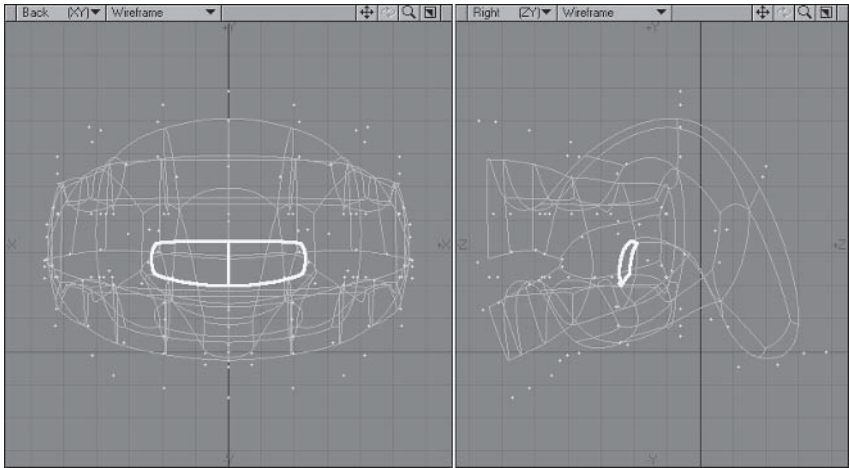

Figure 5.3-107. As you create each segment, shape the polygons to create the cross section for the tongue.
3. **Super Shift** again, **Move**, and adjust the polygons to match Figure 5.3-107.